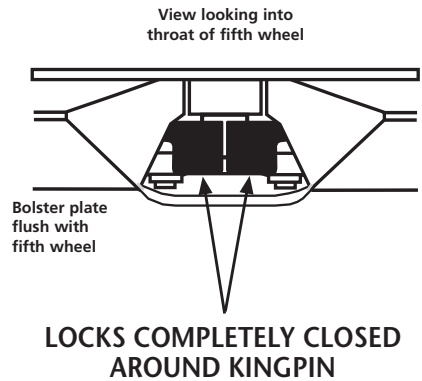

FIGURE 3
4. Back under the trailer and engage the fifth wheel locks with the trailer kingpin. Pull forward to test the completeness of the coupling as an INITIAL check. Set tractor brakes. Next, **visually** inspect the fifth wheel, as shown in **Figure 3**, to verify that it is properly locked
WARNING Failure to verify a proper couple can result in tractor and trailer separation, causing death or serious injury to you or other (see **Figure 3**).